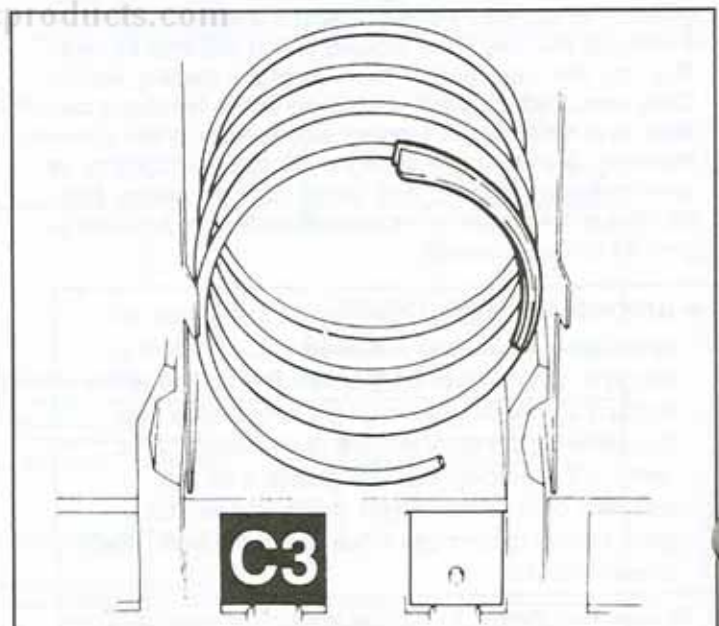

Figure 5. Location of product pusher on spiral.
7. **Product Pusher.** The machine contains enough pushers for you to install a pusher on each candy spiral. This plastic part is designed to push the top of the product forward while it is vending, helping it to fall from the shelf. It can also be used with products that have the wrapper end flap on the outside of the package. In this case, the pusher prevents these products from hanging on the spiral by spreading the flap. The pusher is installed approximately 210 degrees from the front end of the spiral with the tab extending forward. (see Figure 5). Locate the pusher in its proper position, holding it against the spiral wire and push the semi-circular part around the spiral wire. Note: Not every selection spiral will need a product pusher. (Example - Box Items).